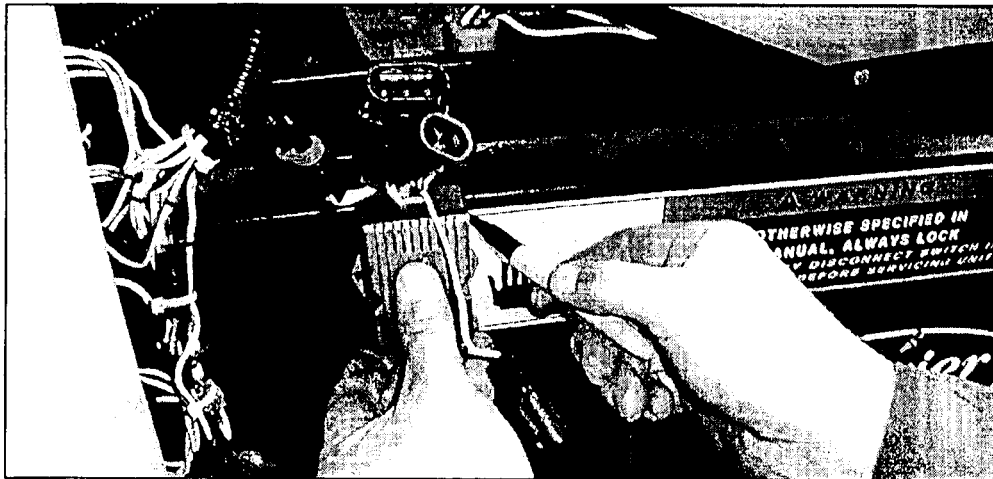

Figure 1.
3. Position the motor drive module (p/n 07-08-1860) on the access panel in the location shown in Figure 1. Using the side edge of the motor drive module, trace the outline with a marker.